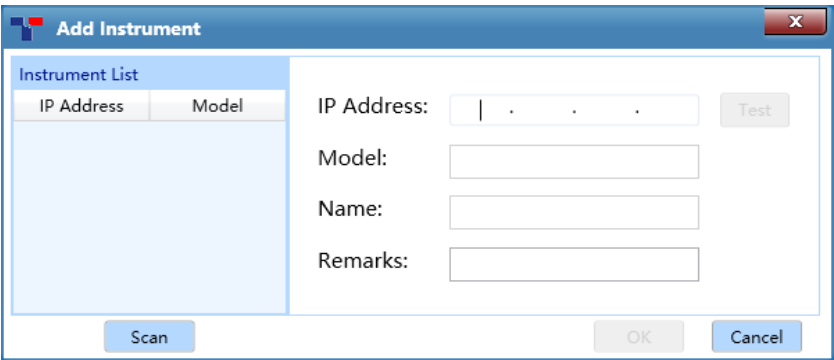

Figure D-3.2a Instrument Management interface - Add Instrument window
a. Click **< Add >** and the add instrument window will automatically pop up, as shown in figure D-3.2a.